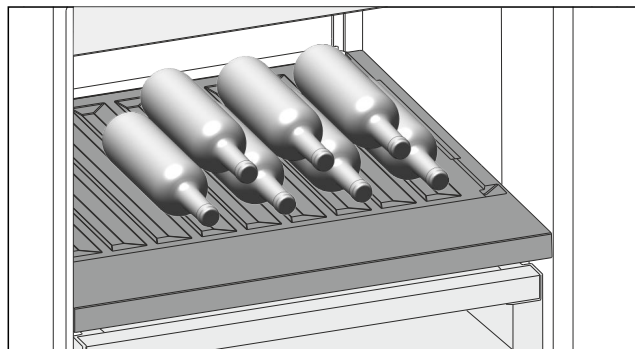

Fig. 137 Example illustration
- ▶ Place bottles in the back row with their bases against the back wall. (see Fig. 137)